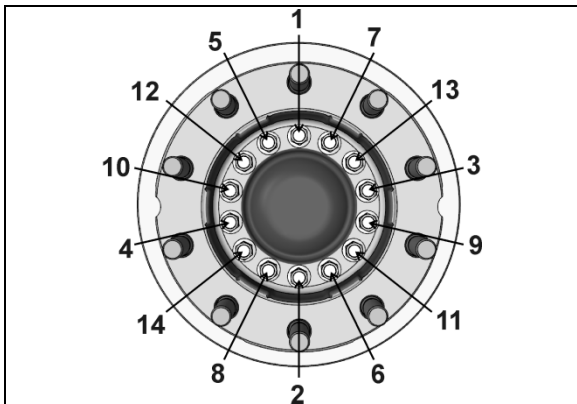

FIGURE 15: HUB FLANGE HEX CAP SCREW TIGHTENING SEQUENCE
11. Secure hub flange and rotor to unitized hub bearing using 14 new cap screws (single-use only). Torque to 161-197 lbf-ft (Refer to FIGURE 15 for tightening sequence).